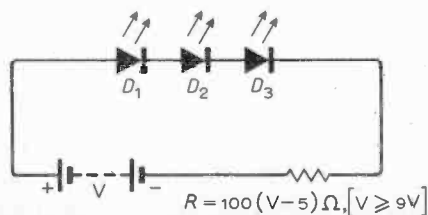

Fig. 5. The two diodes with most nearly equal brilliance can be selected for the tuning indicator when operated in series.
**Lamp matching.** As there is some variation of brilliance of the diodes with identical currents from one lamp to another, it is desirable that the two lamps  $D_1$  and  $D_2$  be approximately matched for brilliance. This is easily done by temporarily connecting the lamps in series and passing a current through all three lamps at once (Fig. 5). The two lamps having most nearly equal brilliance are used for  $D_1$  and  $D_2$ .